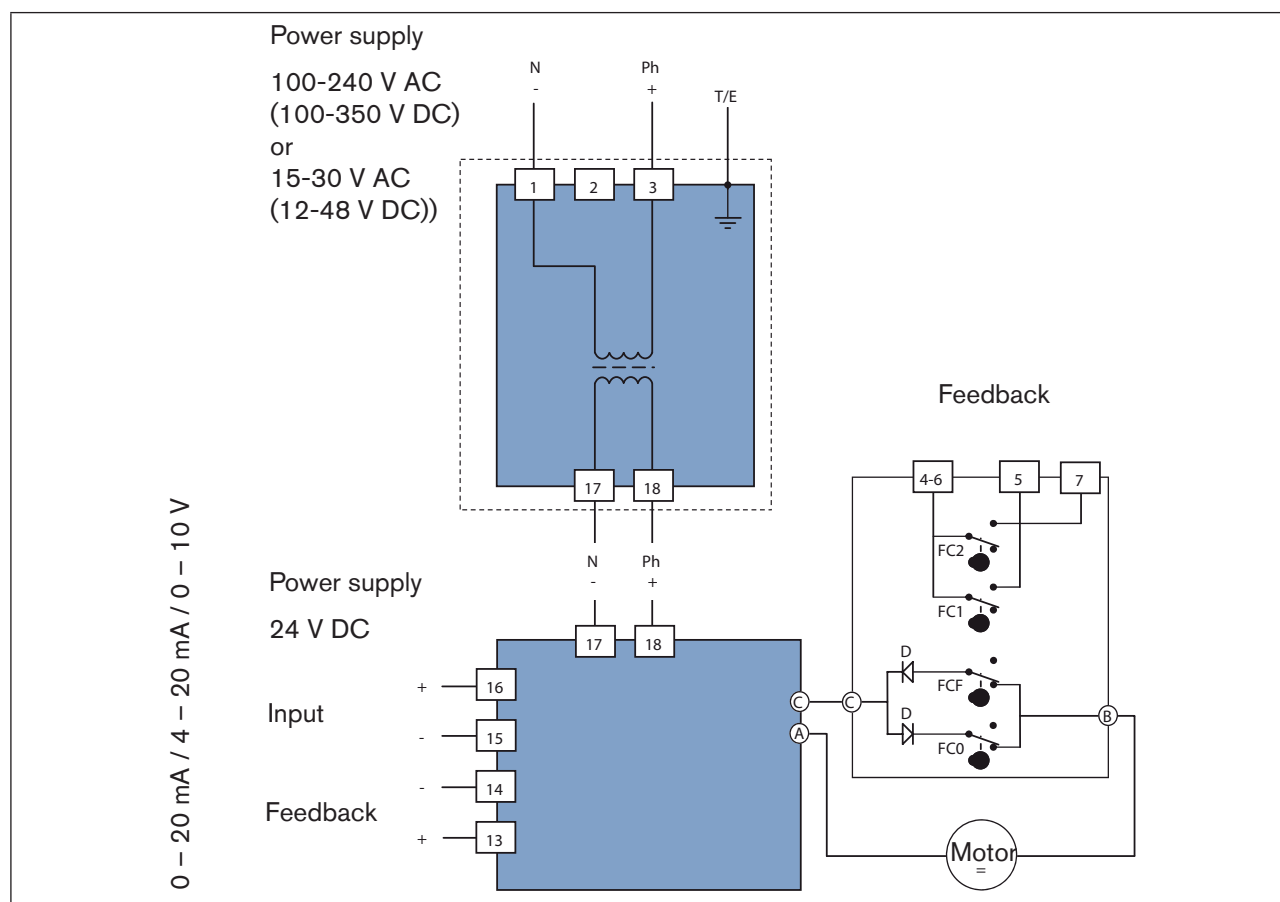

Figure 19: Circuit diagram
- Connect cable according to the circuit diagram (see "Figure 19") to the terminal strip Pos. 14 of the power supply card (see "Figure 1", page 10 and "Figure 2", page 11).
→ Connect cable to the terminal strip 12 (see “Figure 1”, page 10 and “Figure 2”, page 11) according to the schematic (see “Figure 19”).